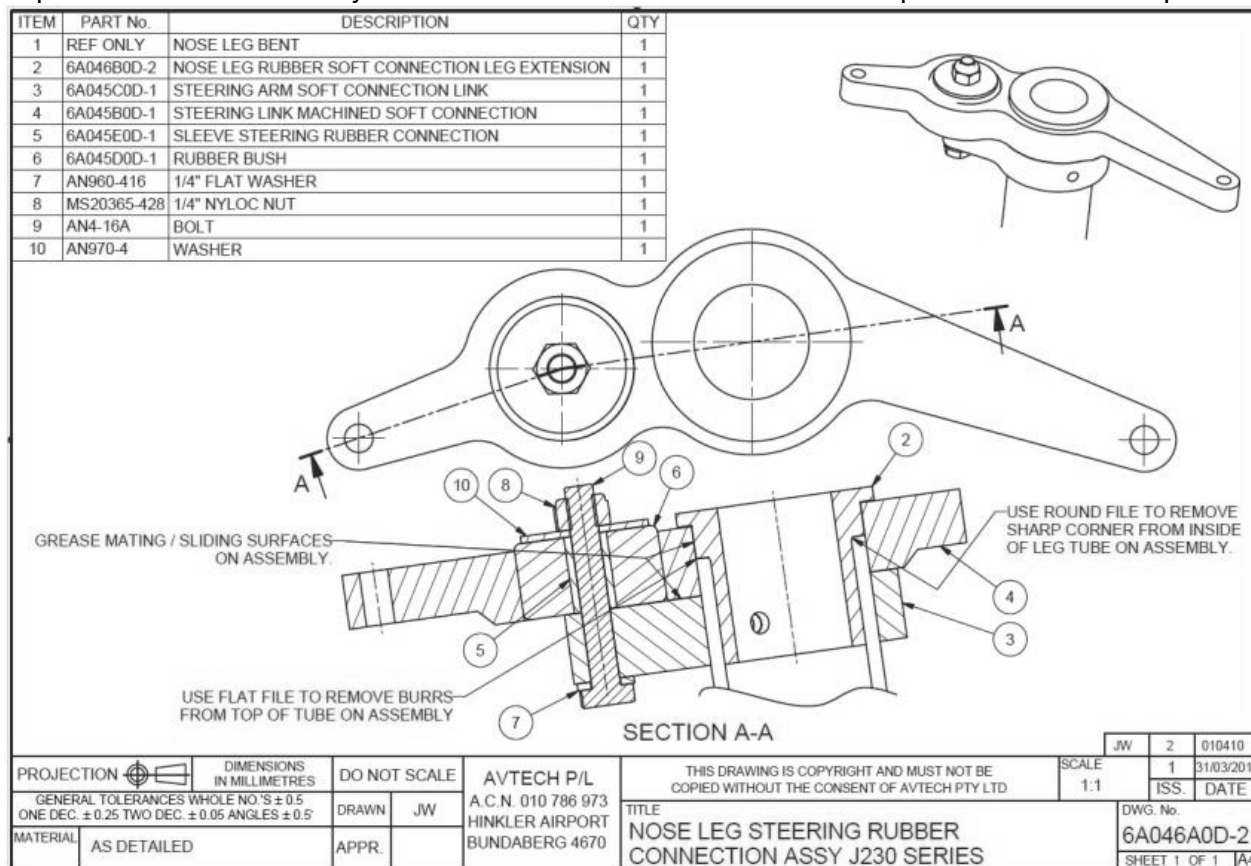

Figure 48 – Nose Leg Soft Link Assy (J200 Family)
- For all models the nose wheel steering system consists pushrods directly connecting the rudder pedals to the nose leg assembly. The systems are shown in Section 9. For some models a “soft link” is fitted between the nose leg and the rudder pedals to absorb vibrations. Details of this assembly are shown below (**Error! Reference source not found.** and Figure 48).